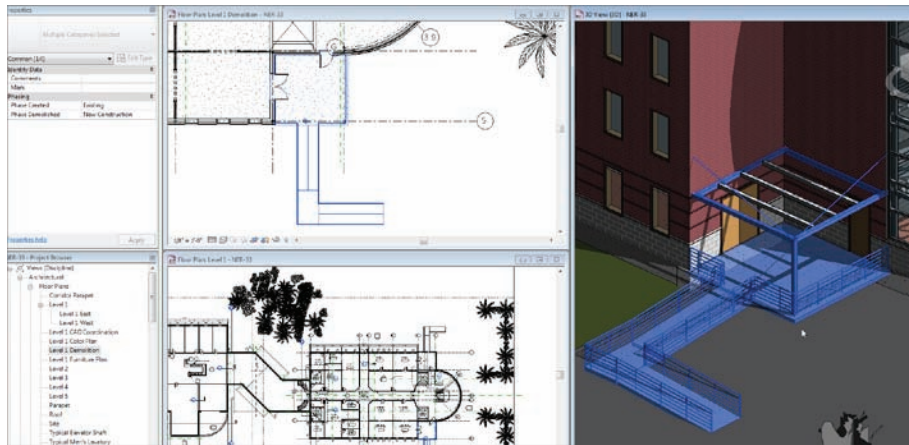

FIGURE 21.5 Setting the demolition
10. Zoom in on the East Entry, specifically where the ramp is entering the building to the south, as shown in Figure 21.5.
12. Select the entire south ramp, floor slab, railings, and framing, as shown in Figure 21.5. Make sure you select the structural framing system that is spacing the beams for the canopy roof, and not the beams themselves.
13. In the Properties dialog, set Phase Created to Existing and Phase Demolished to Demolition, as shown in Figure 21.5.